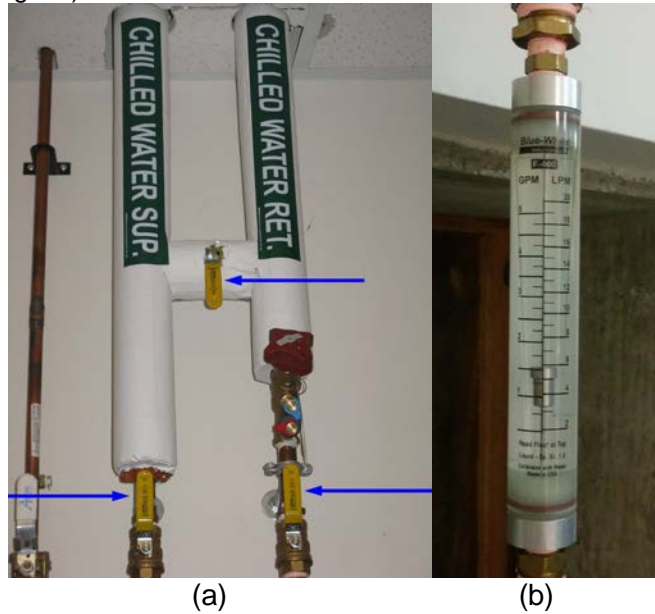

Figure 13. Chilled Water Sup. and Chilled Water Ret. (open), and Flow Meter reading 1.5 GPM
- 22) In the Equipment Room open the yellow valves on the Chilled Water Sup. and the Chilled Water Ret. (vertical position) (Fig. 13).